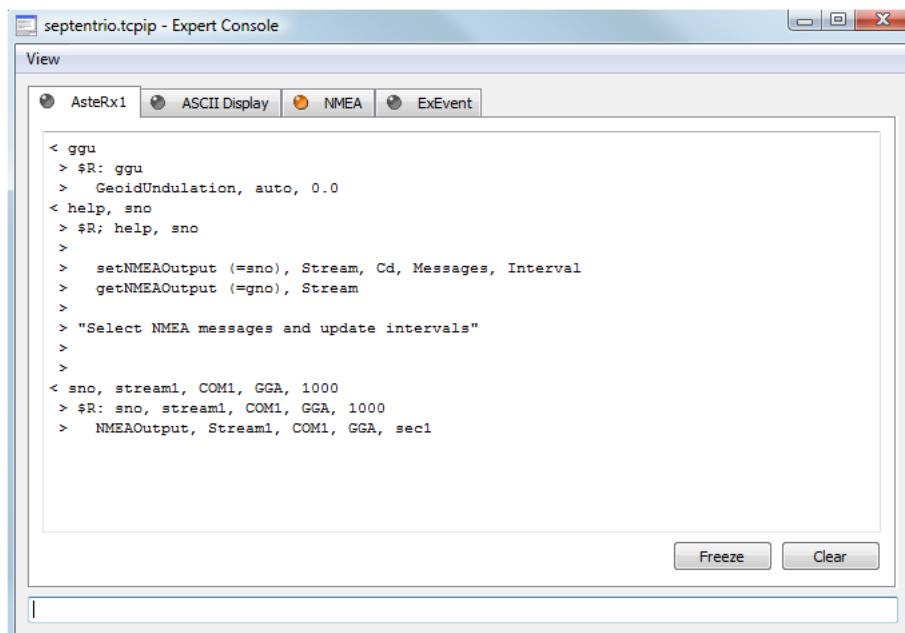

Figure 2-43: The Expert Console displaying its Receiver Communication tab
- At the bottom of the Expert Console is the **command line** (see Figure 2-43) used for sending commands to the Septentrio Receiver. The command line is explained in more detail in Section 2.6.1.
The Receiver Commands tab of the Expert Console is the first tab and forms the central communication channel with the Septentrio Receiver for the expert user. The window is split up in the **message area** and the **command line** (see Figure 2-43). The expert user enters his/her commands on the command line, sending them to the Septentrio Receiver by pressing the `Enter` key. The message area displays the commands entered and the replies received from the Septentrio Receiver.